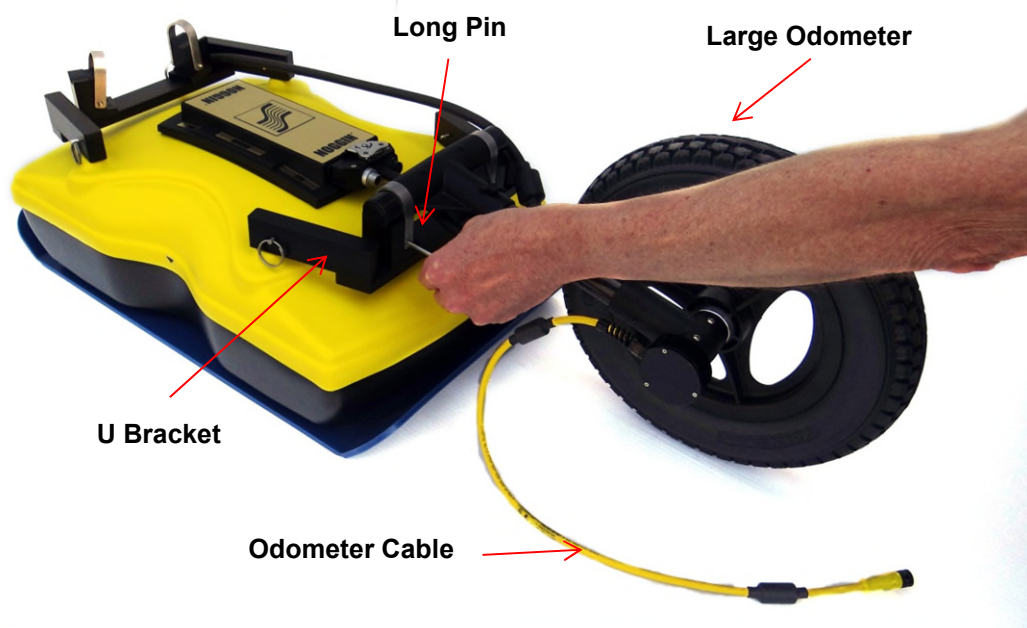

Figure 2-45: Attaching odometer wheel to one of the SmartTow brackets
- Secure the odometer T-bar with the U-brackets and pins (Figure 2-45).